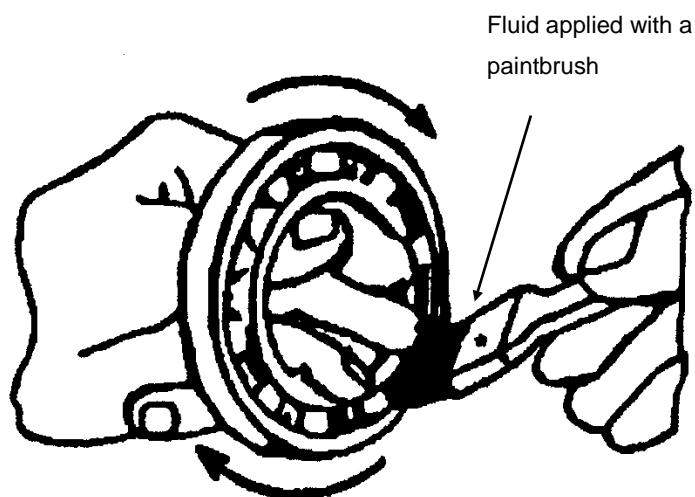

FIG 6.
- Pour the paraffin / degreasing fluid into a receptacle and use a paintbrush to get the fluid into the bearing whilst slowly rotating it in the fluid so that all surfaces are cleaned. (Fig 6)